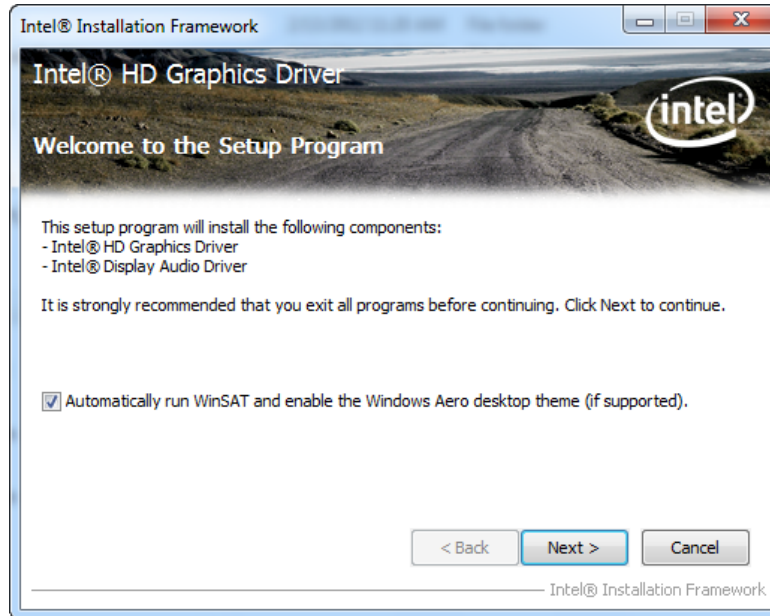

Figure 6-10: Graphics Driver Welcome Screen
Step 8: The **Welcome Screen** in Figure 6-10 appears.